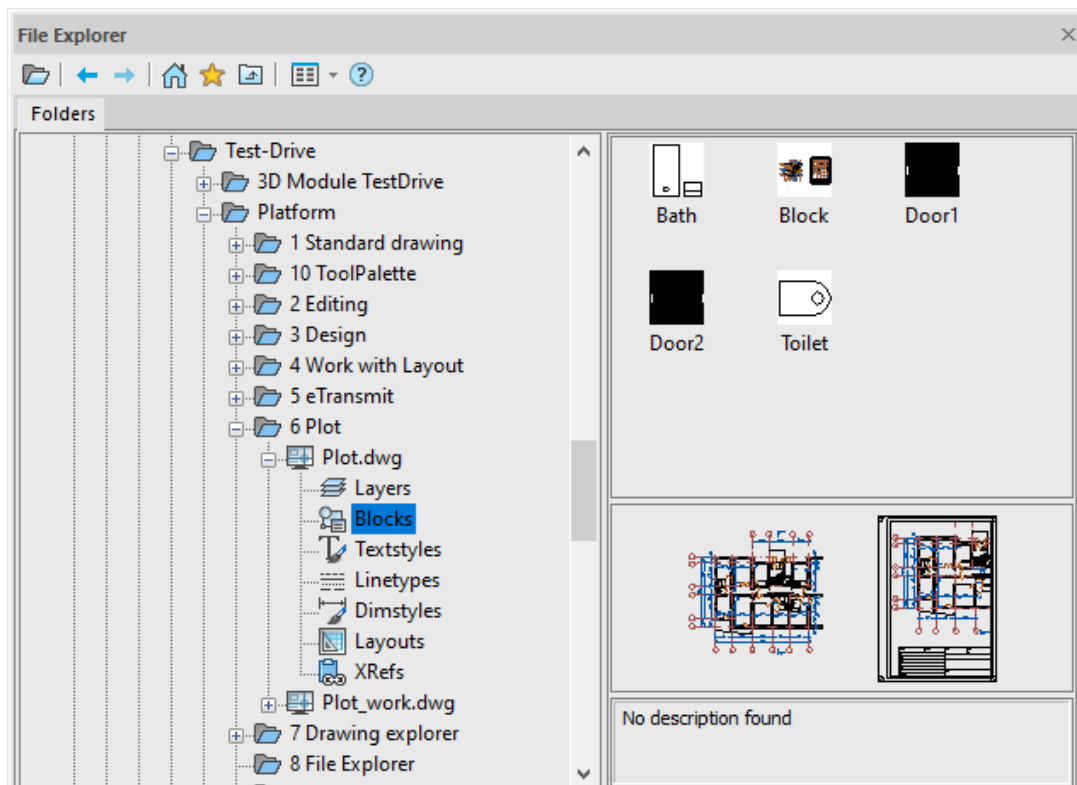

Fig. 60. Explore the Plot.dwg file
8.3. Find the **Plot.dwg** file in the **nanoCAD Platform Test-Drive / 6 Plot** folder. Click **Blocks** (fig. 60):